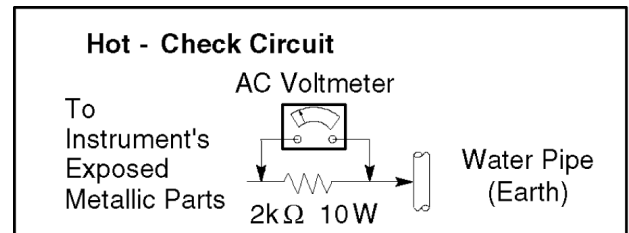

Fig. 3
4. Check each exposed metallic part, and measure the voltage at each point. Fig. 3.